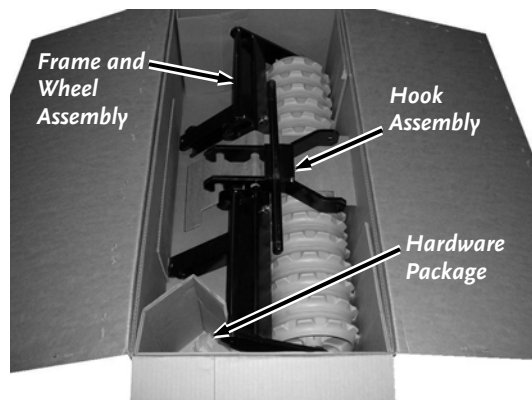

Figure 16
2. Open the shipping container by pulling the staples out with pliers and opening the top flaps (**Figure 16**).